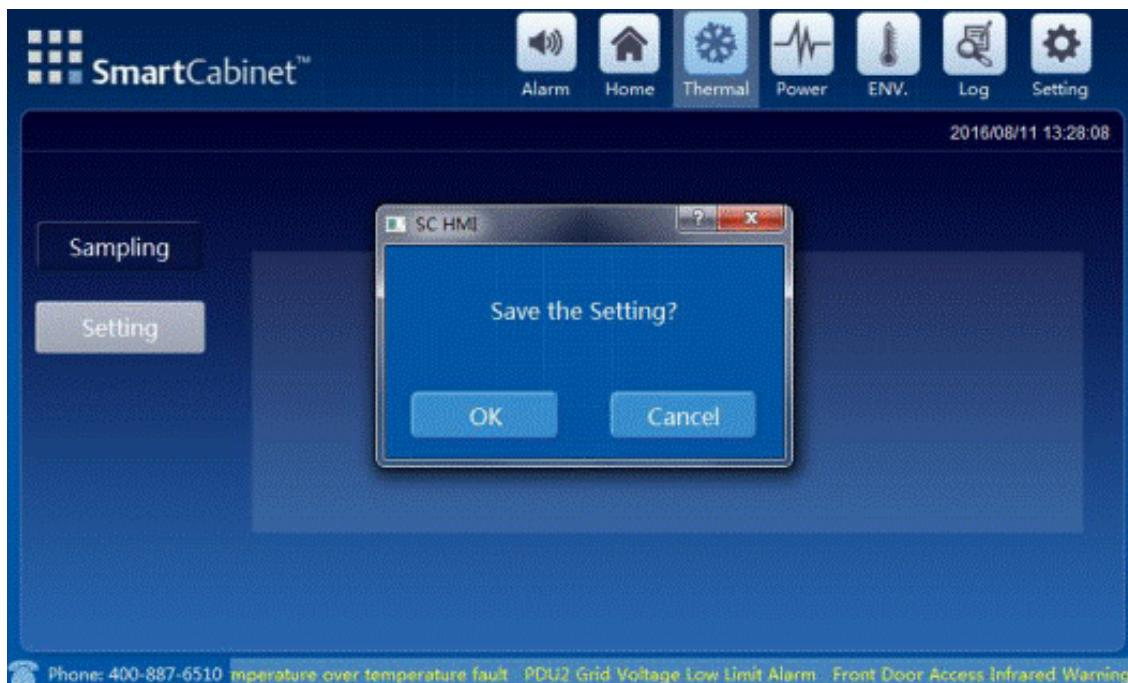

Figure 4-6 Save Settings dialog box
- On modifying the settings, the confirmation dialog box is displayed where the user can save the modified settings as shown in Figure 4-6.